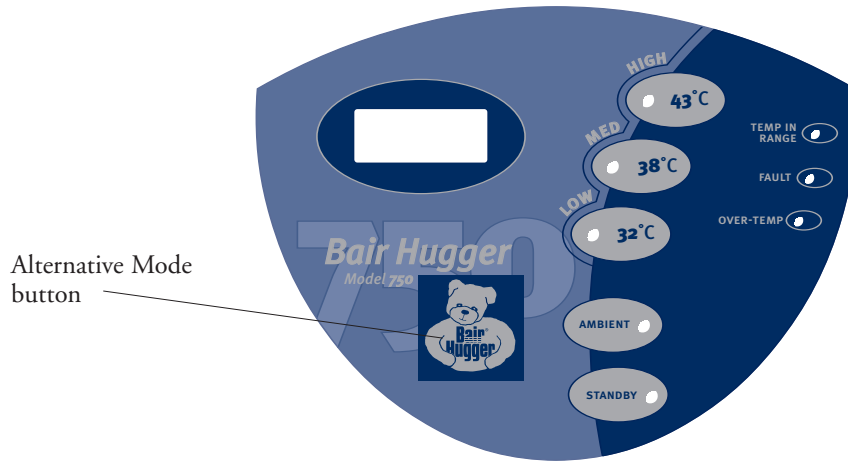

Figure 2. Control panel
4. Press the **Alternative Mode** button (see Figure 2 on page 8) and the **Ambient** button simultaneously for 3 seconds. The temperature management unit is now in *Calibration* mode. In this mode, the temperature management unit performs the following tasks:
4. Press the **Alternative Mode** button (See Figure 2 on page 8) and the **High** button simultaneously for 3 seconds. The temperature management unit is now in a *Forced Over-temperature* mode. In this mode, the temperature management unit performs the following tasks:
2. Press the **Alternative Mode** button (see Figure 2 on page 8) and the **Low** button simultaneously for 3 seconds. The temperature management unit is now in *Fault Code Log* mode. In this mode, the temperature management unit performs the following tasks: